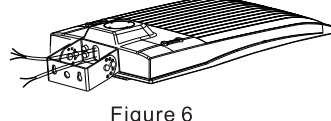

Figure 6
- Step 2: Install the bracket on the fixture. (Figure 6)